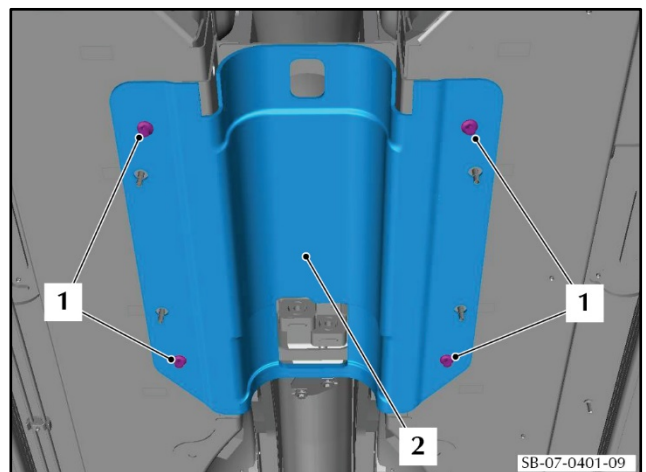

Figure 12
20. Remove the four bolts and four washers (1) that attach the tunnel heatshield (2) to the body. Remove the heatshield (2) (refer to Figure 12).